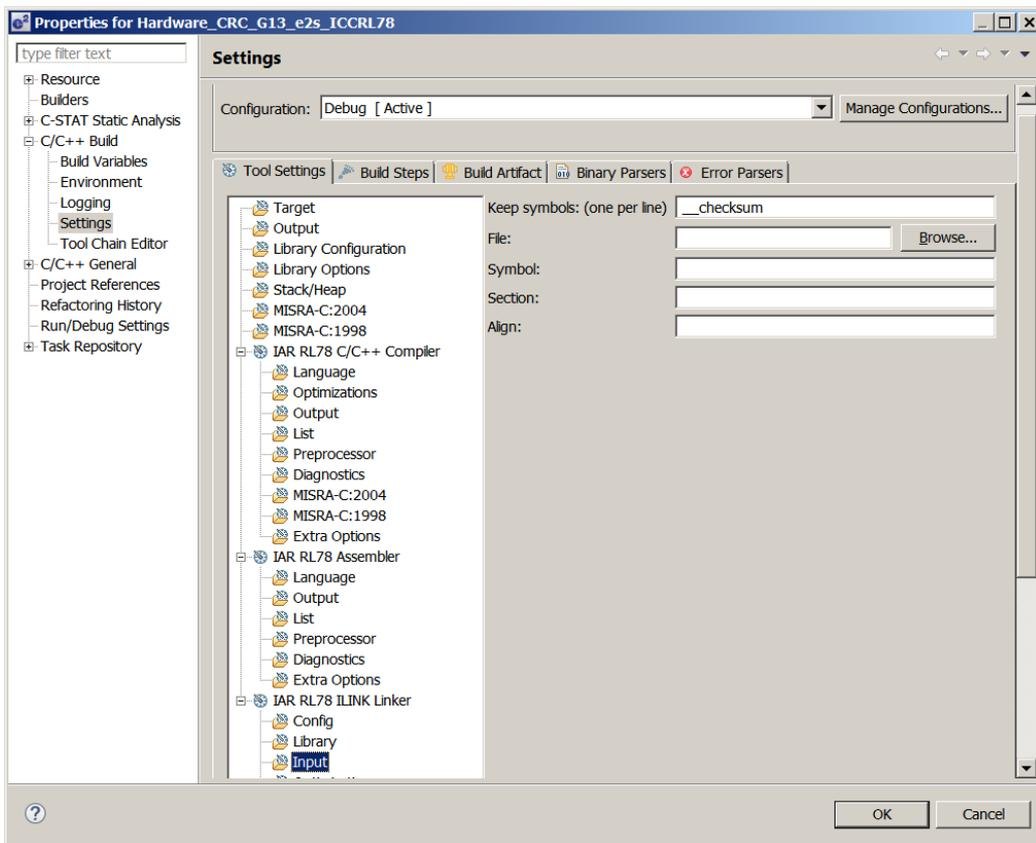

Figure 7: Linker Input Options in e2studio/IAR settings
- Set the CRC/Checksum placeholder location, by entering “__checksum” in e2studio Project >> Properties >> Settings >> IAR RL78 ILINK Linker >> Input, “Keep symbols” box (See Figure 7.)